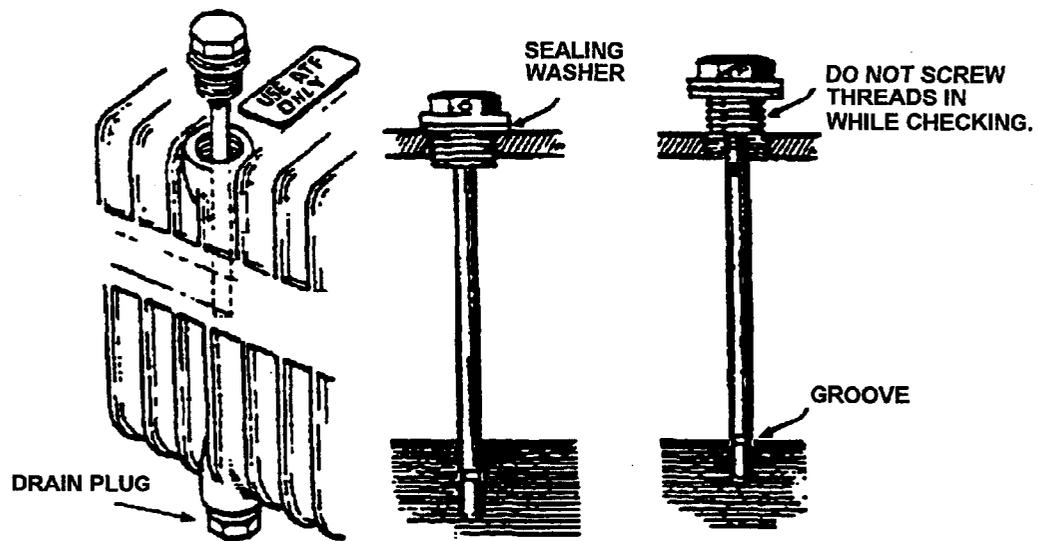

Figure 3-1. Transmission Fluid Level
9. When checking transmission fluid level, unscrew the dipstick, wipe it clean, and replace (DO NOT SCREW IN). Remove again to check level, then replace and screw down lightly by hand. The threads should run in clean. See Figure 3-1. Transmission Fluid Level.